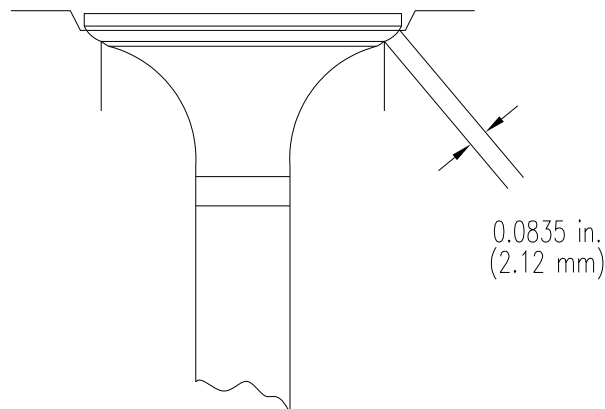

Figure 6-7. Valve Seat (Sheet 1 of 2)
- Refer to Figure 6-7 (Sheet 1) and measure width of contact between valve face and valve seat. Contact should be 0.0835 in. (2.12 mm).